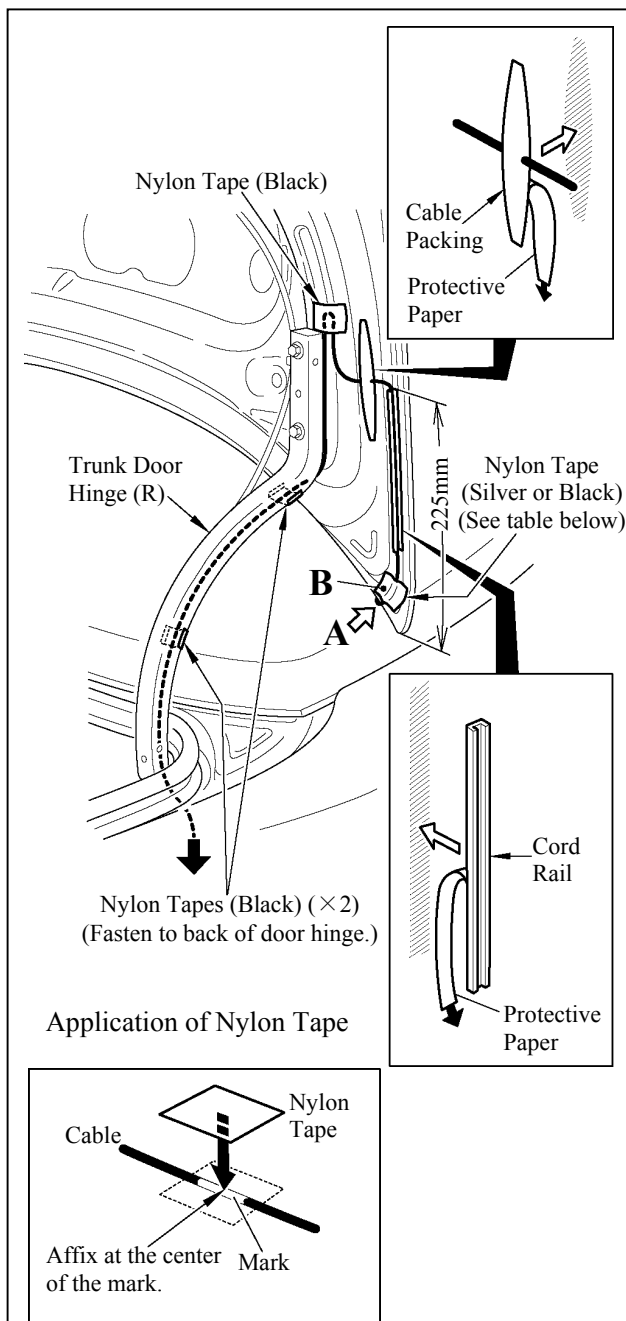

Fig. 3-4 Nylon Tape B Color Correlation Chart
(e) Wire the antenna cable from the trunk door to the door hinge (Fig. 3-4).
(1) Carefully wipe away any dirt or oil from surfaces where cord rails, nylon tape and cable packing are to be attached in the following steps using VDC approved cleaner.
(2) Attach a cord rail at the location on the rear side of the door shown in the figure (Fig. 3-4).
(3) Route the antenna cable through the cord rail and secure it with nylon tape (B in the figure) (Fig. 3-4).
NOTE : Use tape for nylon tape B in the figure of a color that matches the body color by referring to the table in the figure (Fig. 3-4).
(4) Stick cable packing on the rear side of the door in the position shown in the figure (Fig. 3-4).
(5) As shown in the figure (Fig 3-4), route the cable in the door hinge and secure it with black nylon tape.